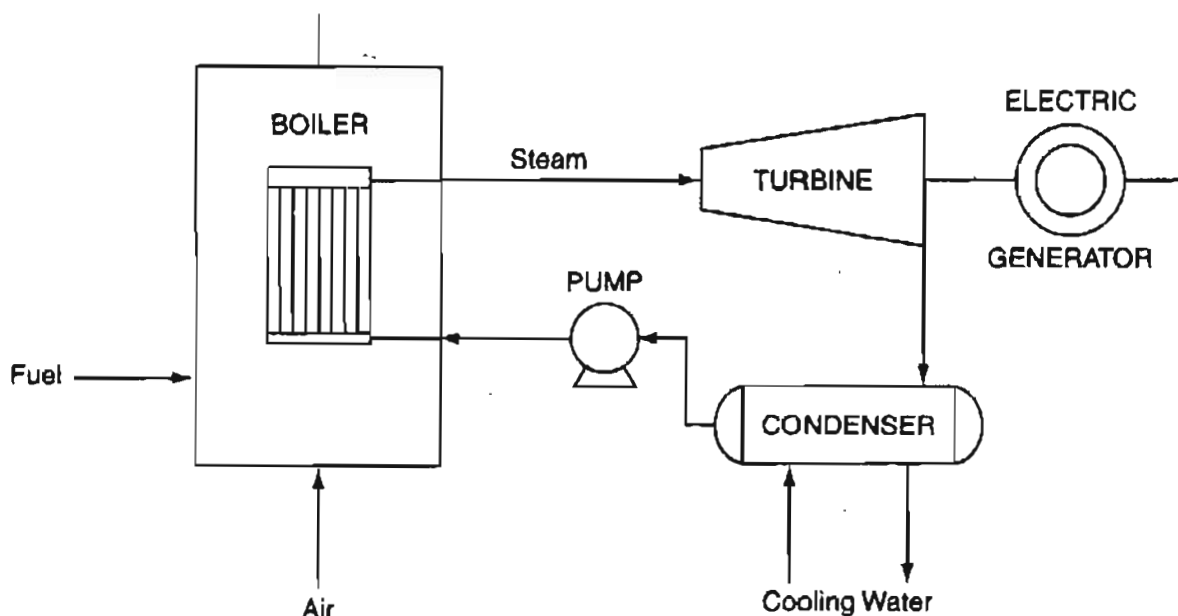

Figure P27.10
- *27.10 Three efficiencies are commonly defined for a power plant such as shown in Figure P27.10:
Calculate these efficiencies based on the following data collected for one hour of operation of the plant in Figure P27.10: